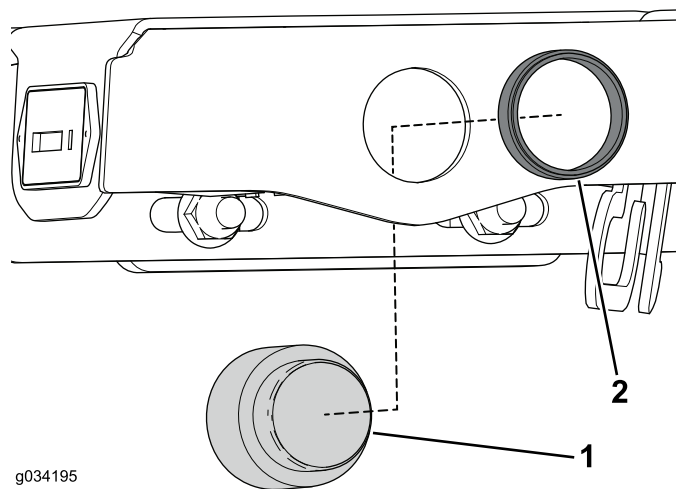

Figure 27
2. Use the retaining ring to secure the audio alarm to the console assembly (Figure 27).